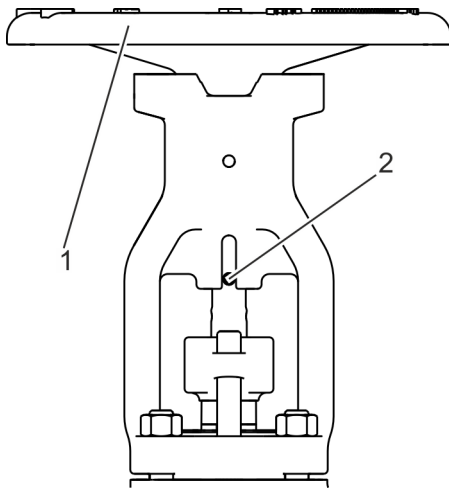

Fig. 40: Closing the valve
2. ➤ Activate the handwheel (Fig. 40/1) in the close direction.
3. ➤ Drive the anti-twist device (Fig. 40/2) out of the stem with the knock-out tool.